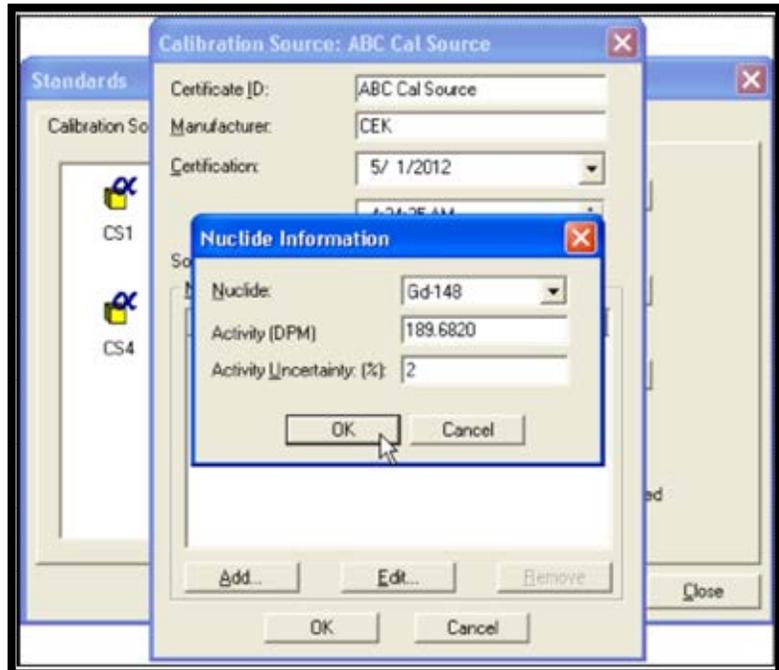

Figure 70. Add Nuclide
- 6) To add a nuclide to the Calibration Source record, click **Add** to open the Nuclide Information dialog (Figure 70).